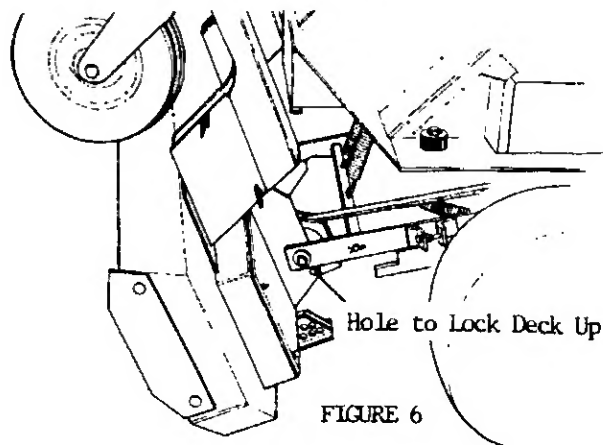

FIGURE 6
4. Place one of the deck pins in the hole to lock the deck up (Fig. 6).